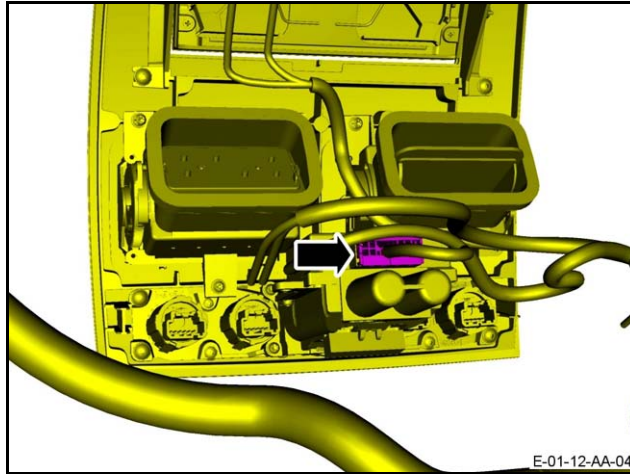

Figure 3
3. Disconnect the electrical connector from the ignition start/stop switch (refer to Figure 3).